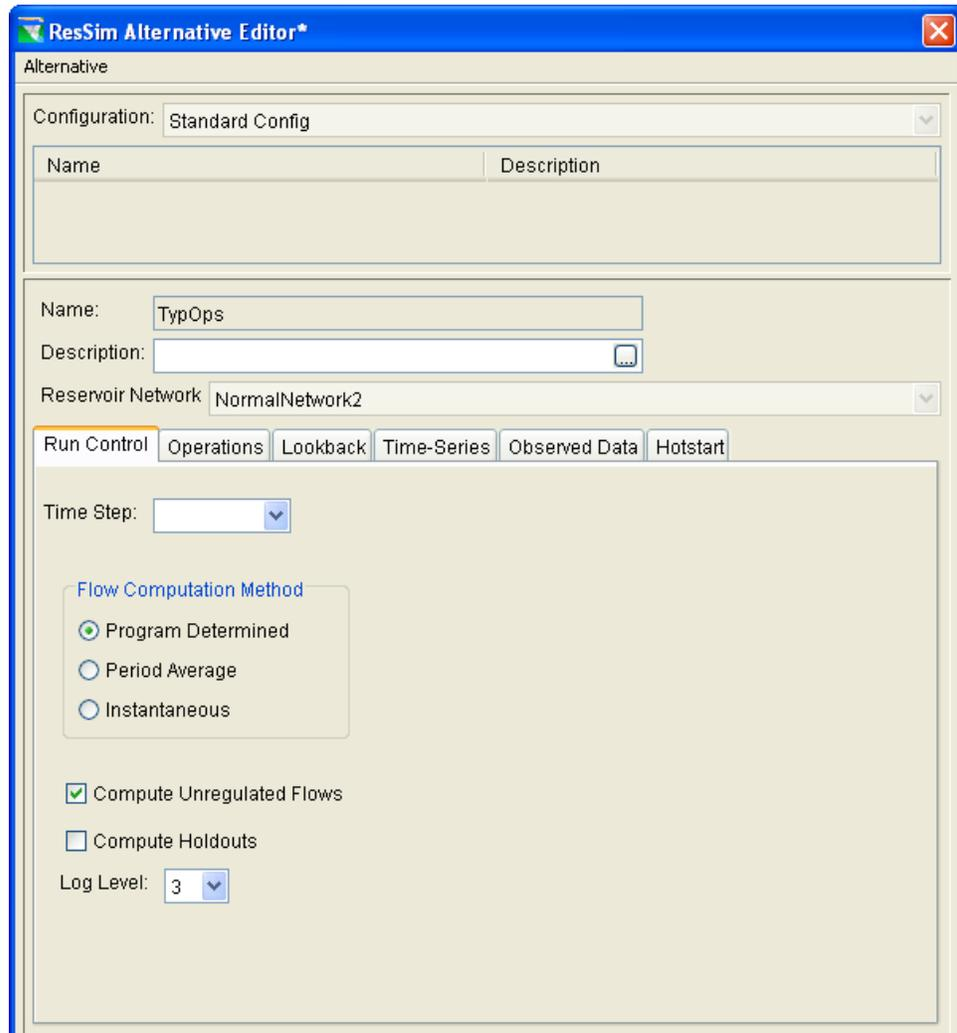

Figure 28. Alternative Editor, Run Control Tab
- The **Run Control** tab (Figure 28) allows you to specify the **Time Step** and **Flow Computation Method** to be used in your simulation(s) [Section 13.4].